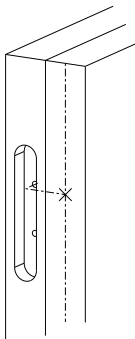

Fig. 2
(Fig. 2)
1. Using the centerline tool, Mark the centerline of the return gallery panel (**Fig. 2**)